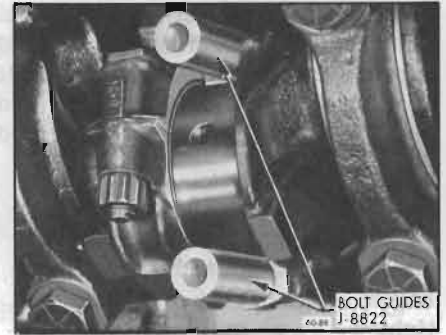

Figure 60-228—Connecting Rod Bolt Guides Installed
4. Remove cap and bearing shell from #1 connecting rod. Install connecting rod bolt guides on the bolts to hold the upper half of the bearing shell in place. See Figure 60-228.